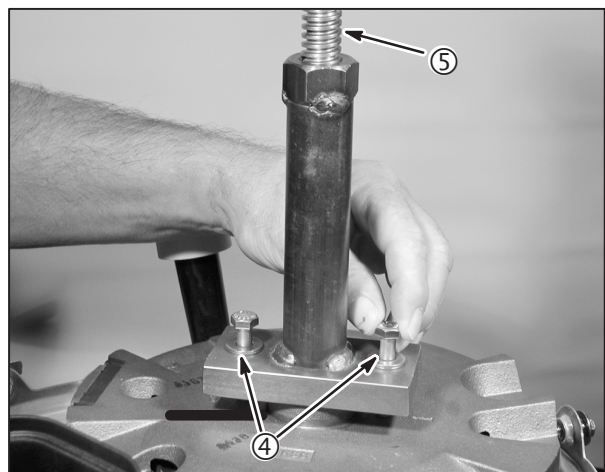

Fig. 19
5. Place the flywheel puller over the pilot. Back out the puller screw (5) until the flange on the puller is flush with the flange on the flywheel, **Fig. 19**.
6. Align the holes in the puller flange with the holes in the flywheel. Install the puller screws (4) and tighten until the screws are flush with the flange on the puller.